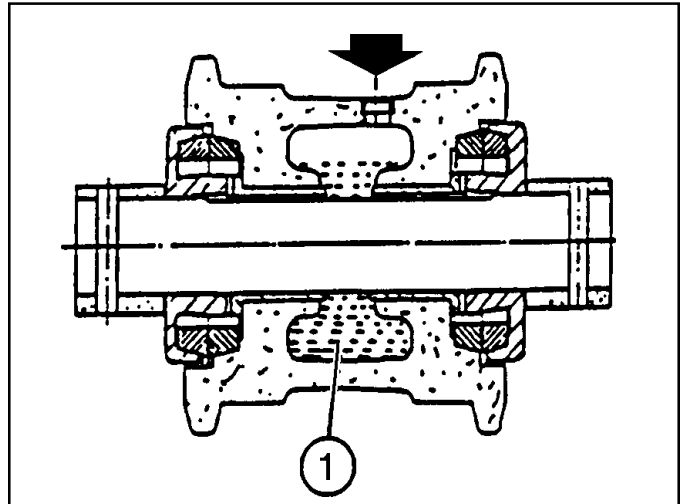

Fig. 2-51 Track Roller - fill with oil.
8. If the air test is satisfactory, with no air leakage around the seals, fill roller with SAE 90 oil through the oil fill hole (fig. 2-51).